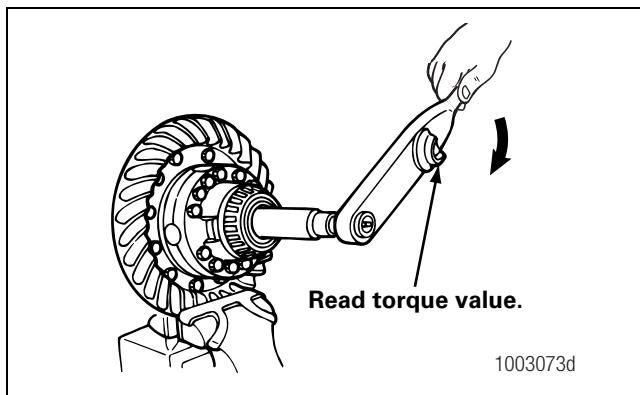

Figure 5.45
4. Place a torque wrench onto the nut of the tool and rotate the differential gears. As the differential gears rotate, read the value indicated on the torque wrench. Figure 5.45.